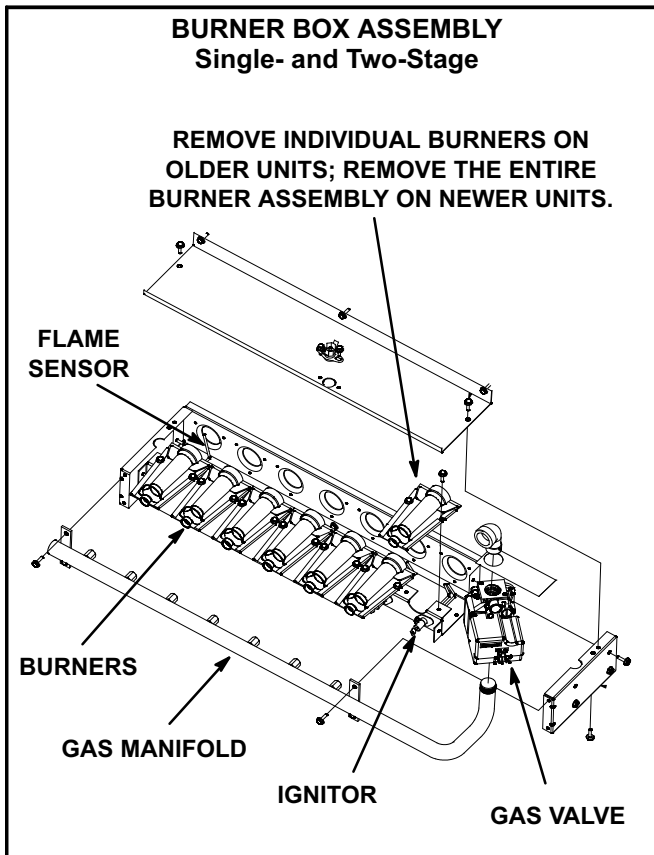

FIGURE 27
- 4- Remove screws securing burners to burner support and lift the individual burners or the entire burner assembly from the orifices. See figure 27. Clean as necessary.